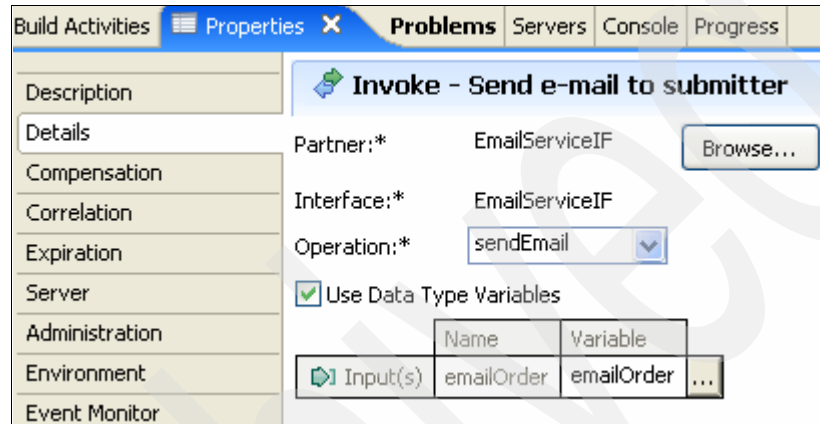

Figure 3-247 Send e-mail to submitter's Properties
- b. Set Send e-mail to submitter's Properties as shown in Figure 3-247.